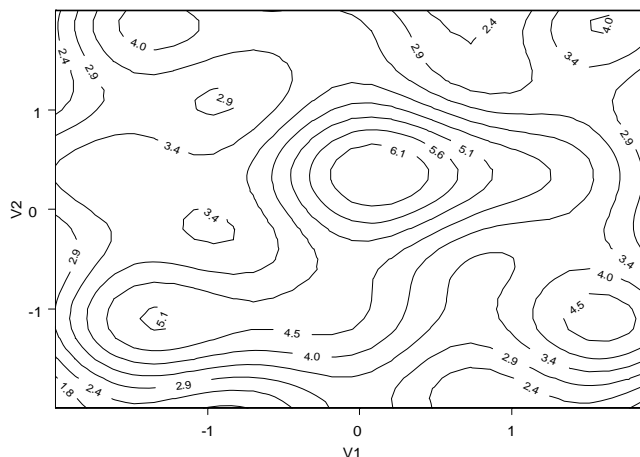

Figure 3.49: *Contour plot of the exsurf data.*
2. Click the **Contour** button  on the **Plots 2D** palette. The resulting graph is shown in Figure 3.49.